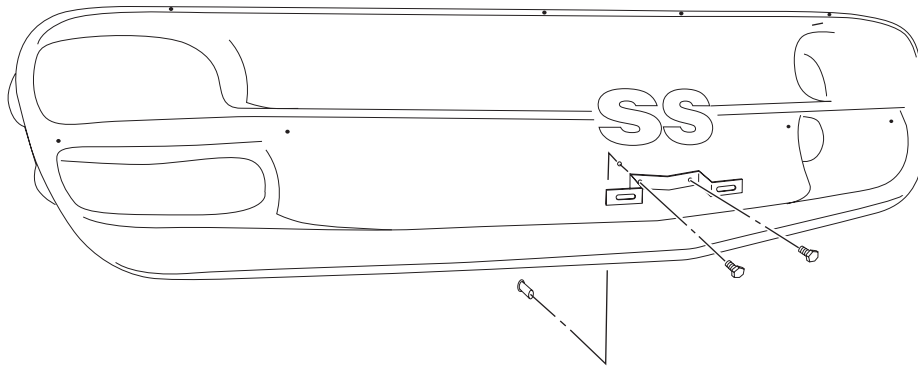

Figure 1
- 1) Center the bracket below the emblem in the center of the grille assembly. (See figure 1)
- 2) Use the predrilled holes in the brackets to mark the location for drilling the two (2) 1/2 inch holes thru the grille and fascia.
- 4) Insert the two (2) well nuts through the grille and fascia.
- 5) Place the brackets into position and tighten the two (2) bolts into well nuts until the bracket is snug to the grille assembly.